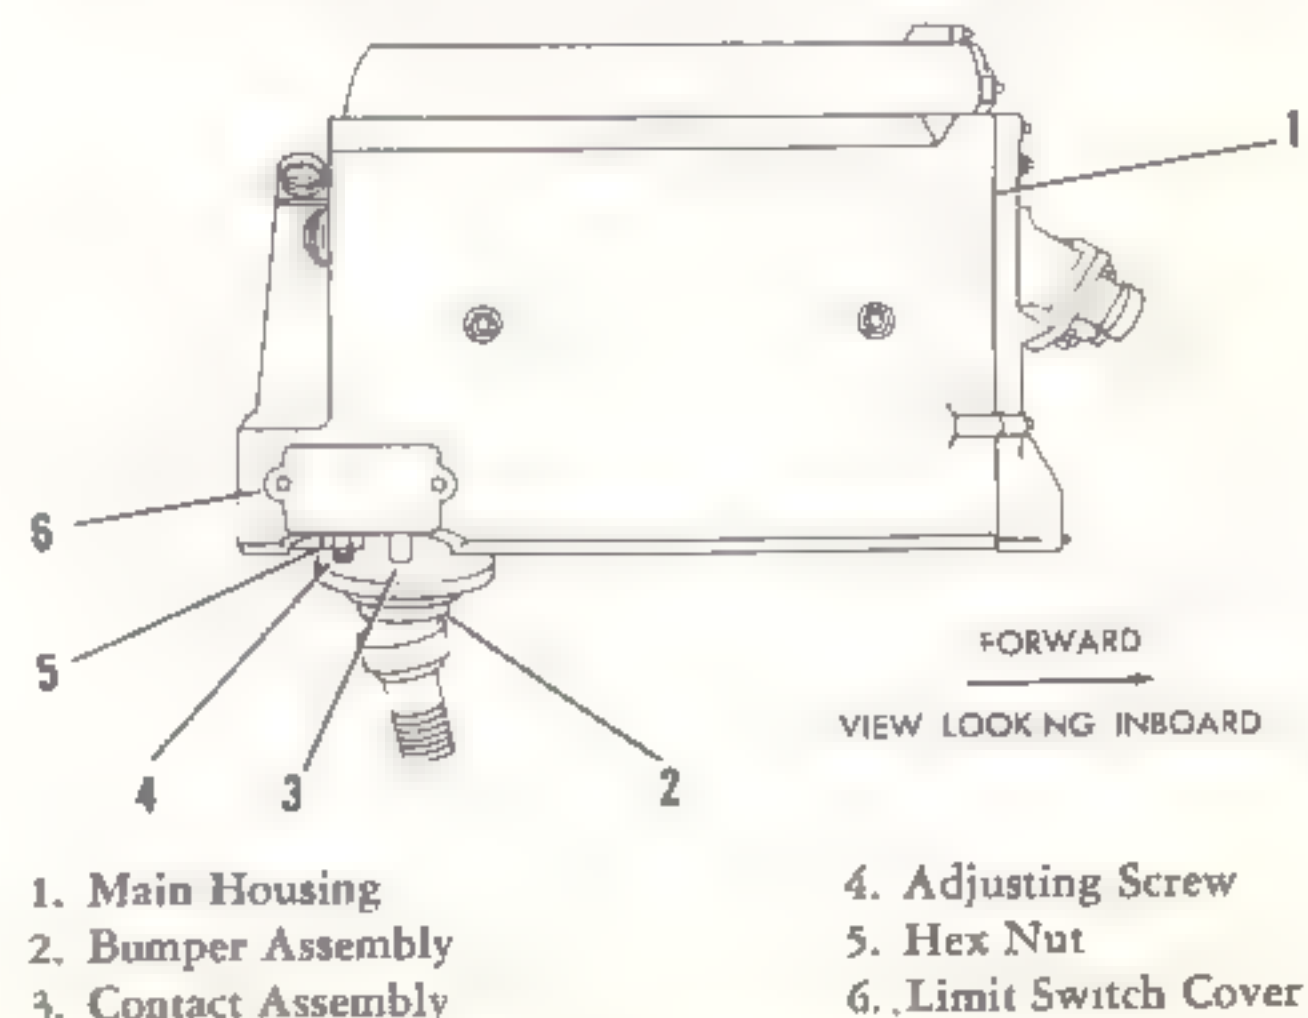

Figure 4-20. Adjustment of winch
f. Adjustment {upper limit switch}. (1) Reel in entire cable to test operation of upper limit switch. If motor shuts off when cable is entirely reeled in, there is no adjustment necessary.
(2) If motor remains in operation after cable is reeled in, check tension of upper limit switch spring and adjust upper limit switch.
(3) Reel in cable and adjust upper limit switch to close when bumper assembly (2, figure 4-20) reaches cable guide and rubber bumper is compressed approximately 1/8 inch by contact assembly (3).
(4) Adjust upper limit switch by backing off hex nut (5) and setting adjusting screw (4) until upper limit switch is actuated by contact assembly (3).
(5) Tighten hex nut (5) when proper adjustment is reached.